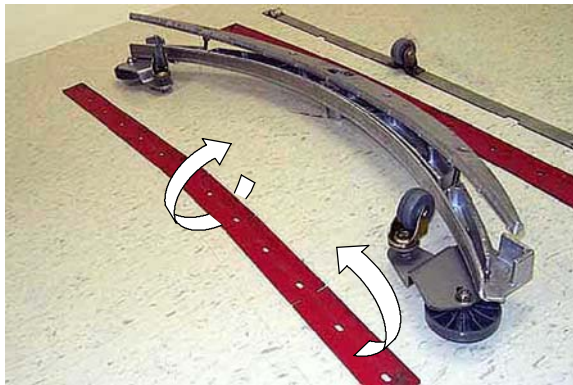

FIG. 80
3. To change the front blade, remove the band and loosen the four knobs. Replace or rotate the front blade to a new wiping edge (Figure 80)